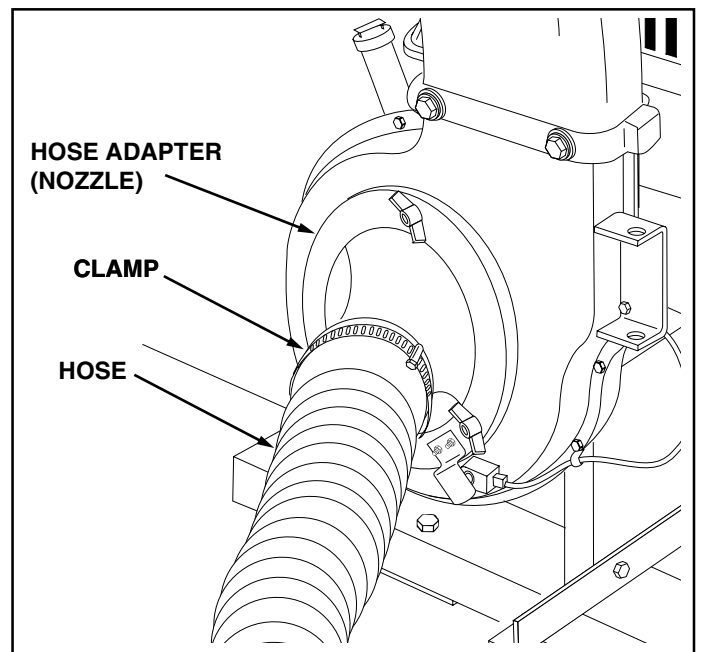

FIGURE 19
36. Place a hose clamp onto the end of the hose. Push the hose onto the hose adapter (nozzle). Tighten the hose clamp onto the hose and hose adapter. **Do not collapse the hose adapter when tightening the clamp.** See figure 19.